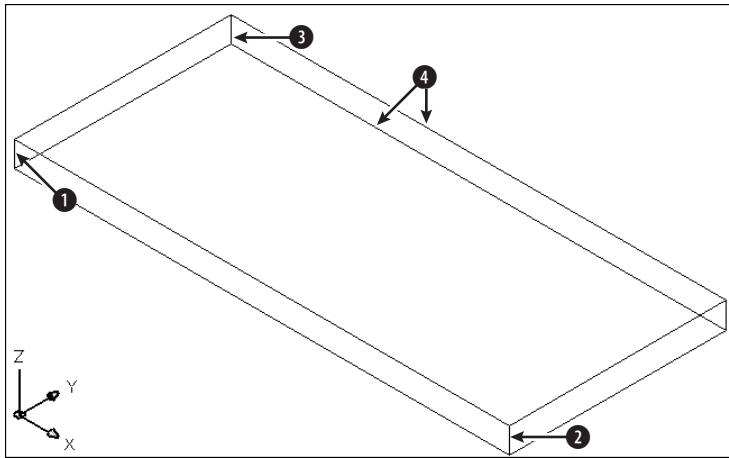

Figure 24-38: You can chamfer this solid box to create a new shape.
2. Save the file as `ab24-12.dwg` in your AutoCAD Bible folder. This is a simple box with dimensions of 233×102×12 millimeters, as shown in Figure 24-38.
at 1 in Figure 24-38.